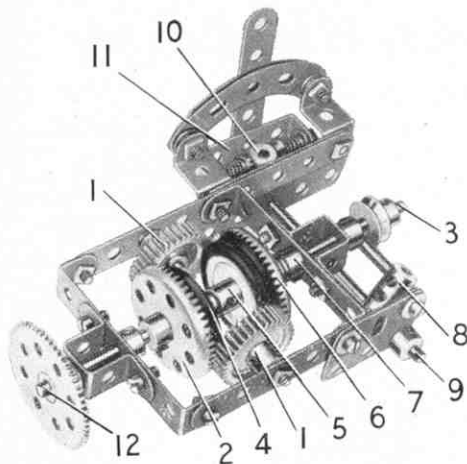

Fig. 1. A useful friction clutch reversing mechanism.
A. Roberts, Capetown, in which the drive was engaged through friction clutches. This month I am illustrating (Fig. 1) an interesting modification of Roberts' idea, which can be used in model vehicles, as the input and output shafts are mounted in a straight line. This mechanism is somewhat simpler than the original design, but it operates on the same principle.
The Contrates 2 and 6 are positioned so that there is just sufficient clearance from the Pulleys 4 and 5 to permit the Rods 12 and 3 to rotate independently. When Rod 3 is moved to the left (Fig. 1) Pulley 4 is pressed against the Contrate 2 and it provides a direct friction drive between Rods 12 and 3. When Rod 3 is moved to the right Pulley 5 engages the Contrate 6,